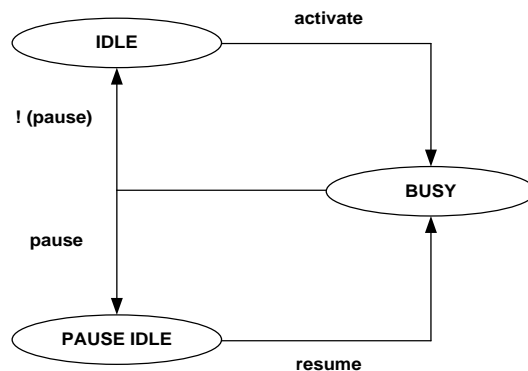

Figure 6.1-2. Operation flow with or without PAUSE mode
- Unlimited length for transmission can be achieved in Pause mode. In Pause mode, the CS signal will stay active (low) after the transmission. During this period, the SPI controller will be in **PAUSE_IDLE** state, ready to receive the resume command. Figure 6.1-2 is the state transition diagram.